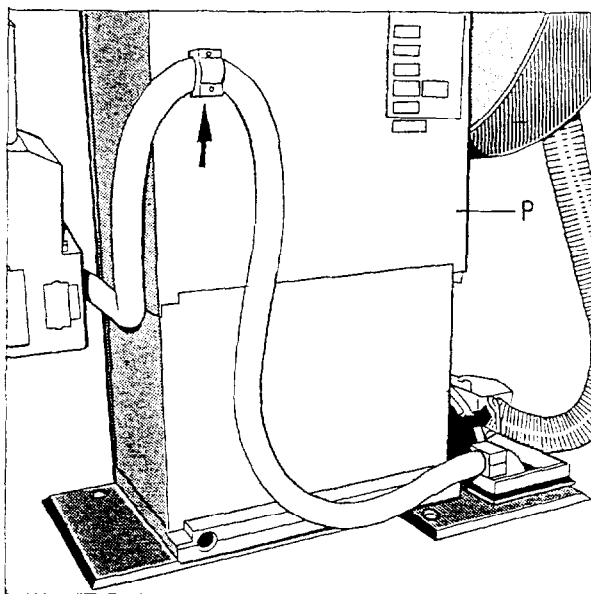

Fig. 18
- Install the corrugated hose holder (↗/ Fig.18) on cover panel P and fasten the corrugated hose so that unimpeded unit movements are possible.